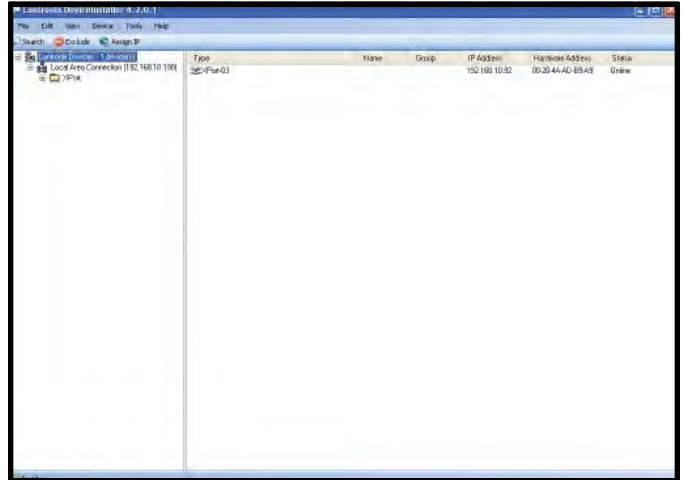

Figure 5. DeviceInstaller search results
3. After a few moments, "XPort-03" should appear on the screen along with its assigned IP address and designated hardware address (see Figure 5). If it does not appear, check all connections from the Ethernet Board to the Smart Clock and verify that both are powered.